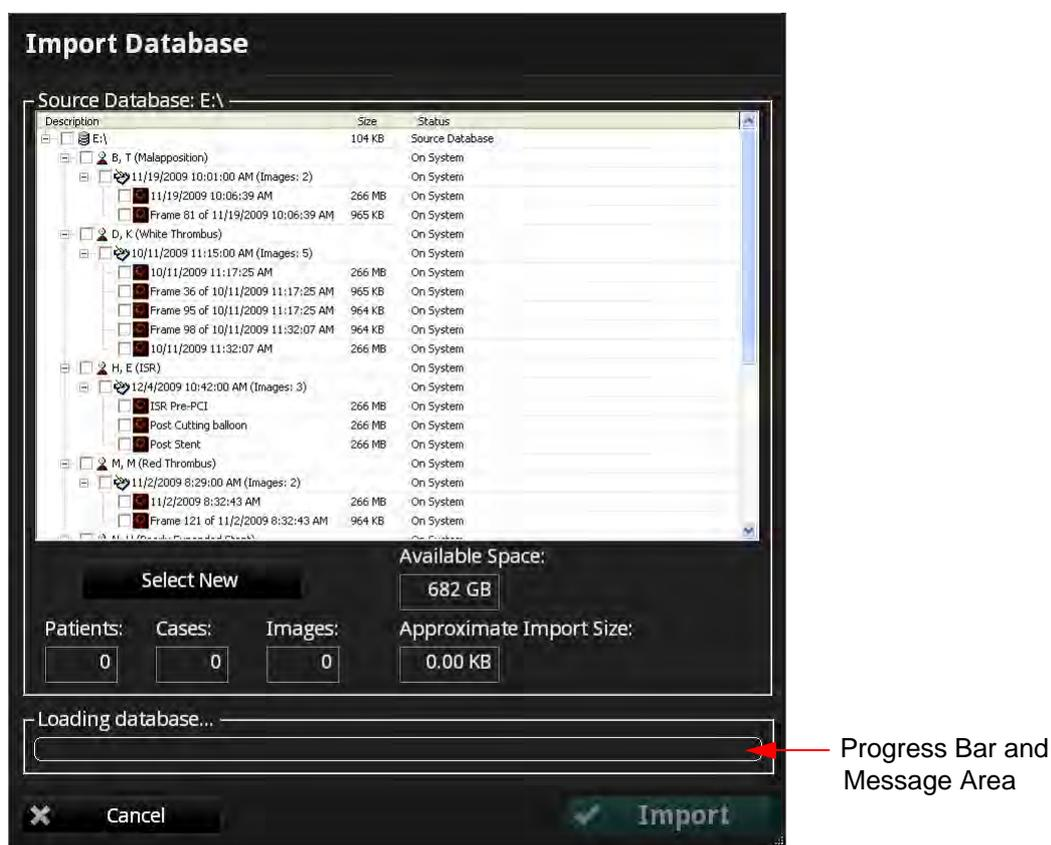

Figure 8-7: Import Database Menu
4. The **Import Database** menu opens (Figure 8-7).